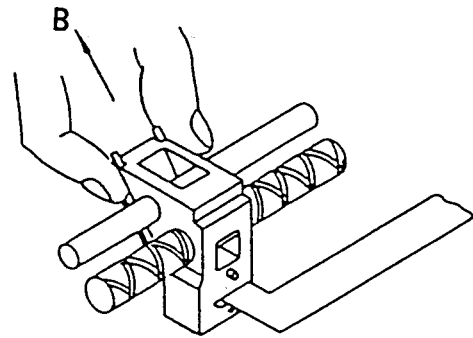

Figure 8-14 Pulling Out the Head Unit
- ④ Holding both sides of the head unit with your fingers, pull out the head unit in the direction shown by arrow B (see Figure 8-14).